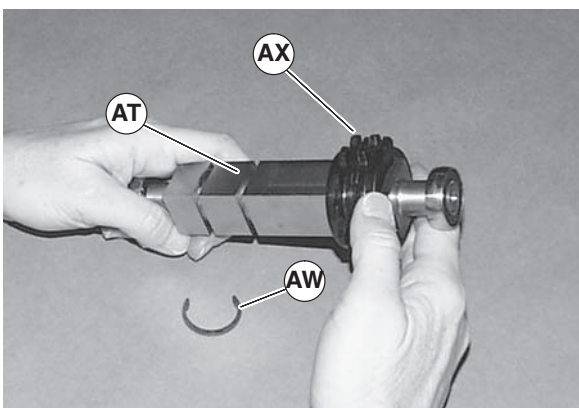

Figure 32
4. Remove snap rings (Figure 32, item AW). Slide drive sprocket (AX) off the end of pulley (AT).